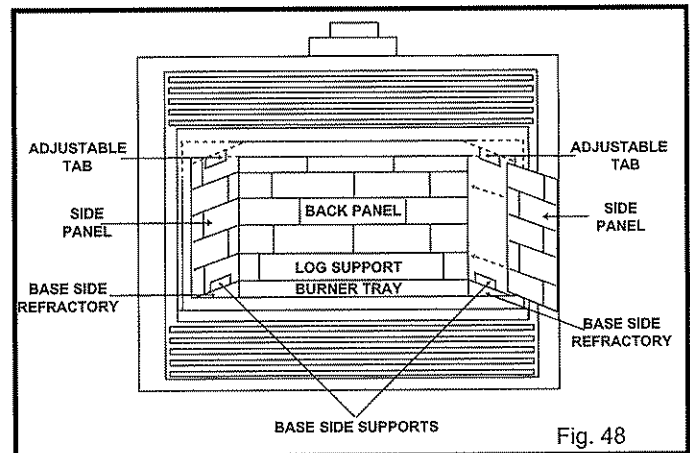

Fig. 48
6. Slide side panels into side supports and behind side tab and adjust, fitting the ceramic tight to the side of the firebox. Tighten nuts. Fig. 48.